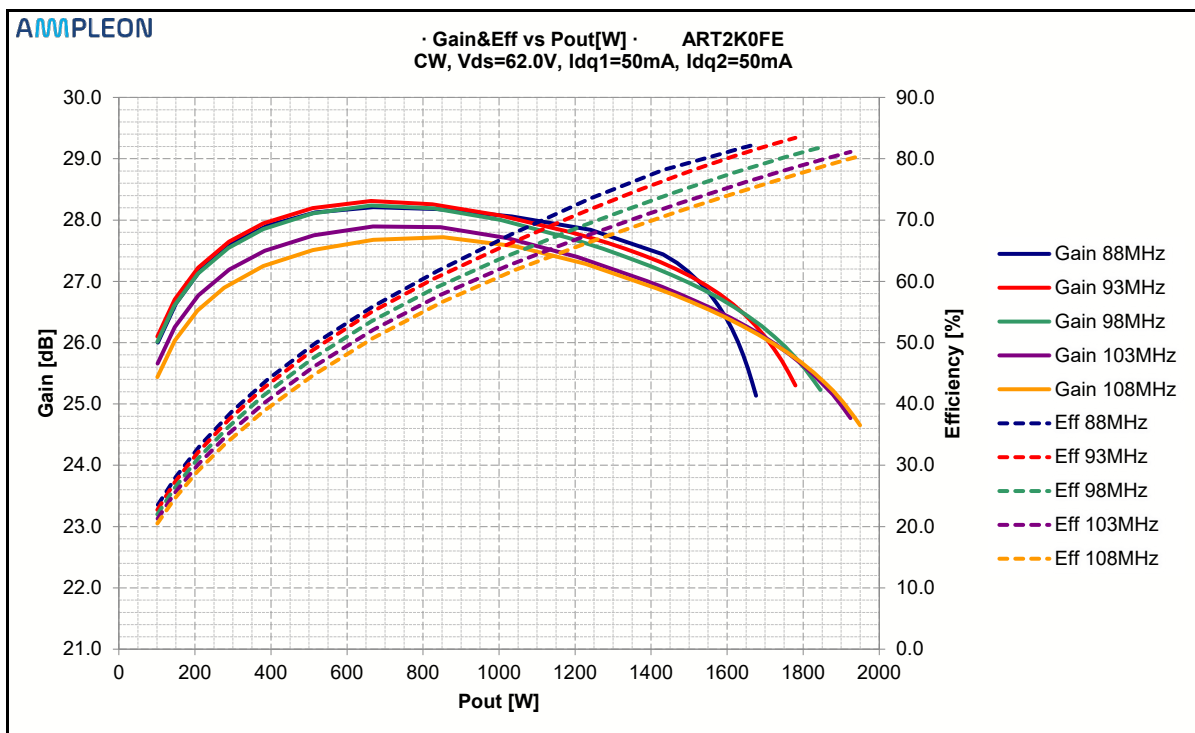

Figure 4 CW (Vds=62V) Gain and Efficiency vs Pout [W]
- Figure 4 CW (Vds=62V)Gain and Efficiency vs Pout [W] 8